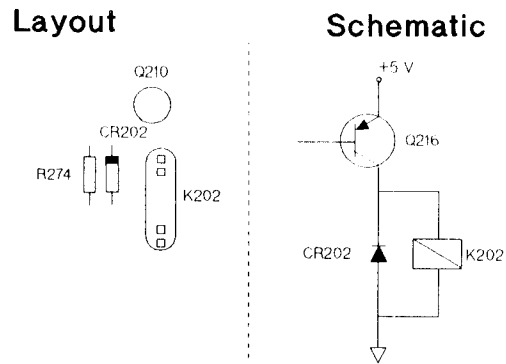

Figure B-7. CR202
- Figure B-7 shows CR202's location in the circuit and on the main board. Modify Figure 10.3-5 and Figure 10.4-8 accordingly.